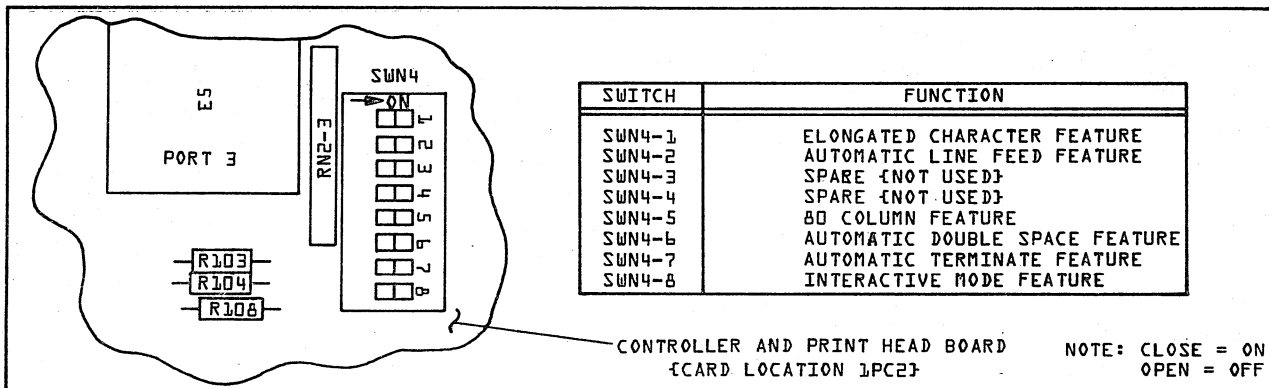

FIGURE 4-10. CONTROLLER AND PRINT HEAD BOARD SWITCH SELECTABLE FEATURES
9. With the aid of Figure 4-10, locate switches SWN4-1 through SWN4-8, which are mounted on the controller and print head board (card location 1PC2).